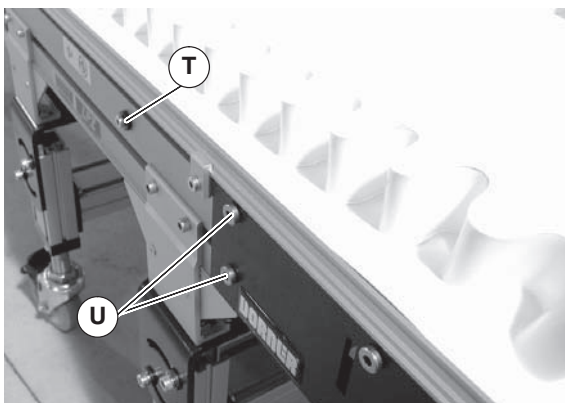

Figure 42
2. On the side of conveyor to be adjusted, loosen two (2) tail clamp screws (Figure 42, item U).